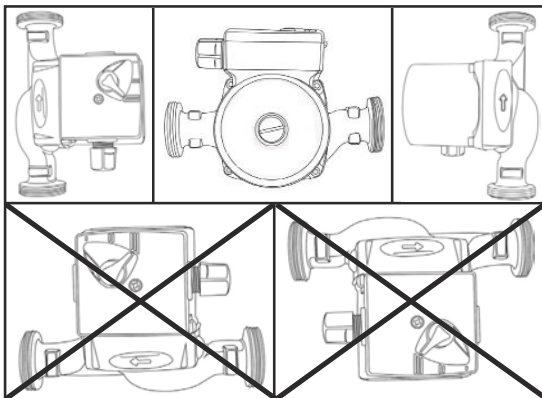

Рис. 3 Снятие крышки
**ATTENTION!** The circulation pump must be installed in such a way as to ensure the position of the pump shaft axis is strictly horizontal, and the terminal box is from above or from the side (Fig. 3).
An arrow on the end of the cover indicates the direction of flow (fig. 3).